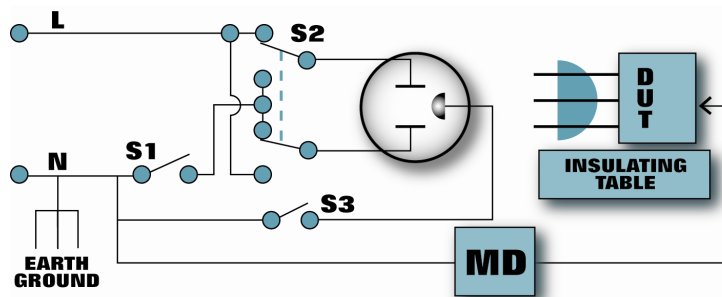
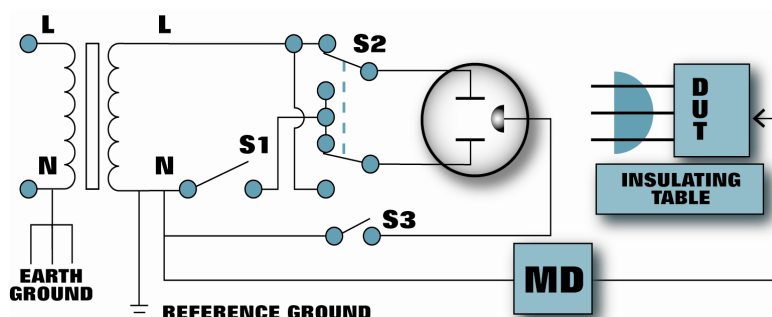

Figure 2: Enclosure Leakage Test Neutral Referenced to Earth Ground
Figure 3: Enclosure Leakage Test Isolated Input, The Output of the Isolation Transformer is not Referenced to Earth Ground
Every DUT that is powered from AC line power is going to have a certain amount of leakage back to earth ground since power distribution systems are ground referenced. Much of the leakage seen during a Leakage Current test can be due to the distributed capacitance of the DUT and the applied voltage. Figure 2, shows a Leakage Current test circuit where the neutral is referenced to earth ground. With this configuration any internal leakage in the test instrument and fixture is added to the leakage of the DUT. Since most Leakage Current testers are powered from the line there will always be some internal leakage in the Measuring Device (MD) circuits. Associated Research has designed our testers to minimize the effect of this ground leakage but it is impossible to reduce this leakage to zero without isolating the DUT power source. Figure 3 shows the same test circuit but incorporates the use of an isolation transformer for DUT power. Performing the test in this manner greatly reduces the internal leakage making this a more accurate test.